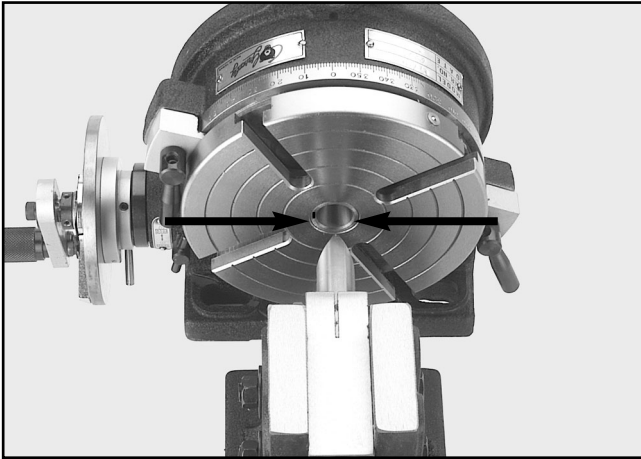

Figure 5. Alignment of Y axis.
2. Install the tailstock onto the milling table so the dead center of the tailstock is inline with the center of the rotary table. Slots are provided for keys to help with alignment of centers. The alignment of the Y and Z axes are shown in **Figures 5 & 6**.